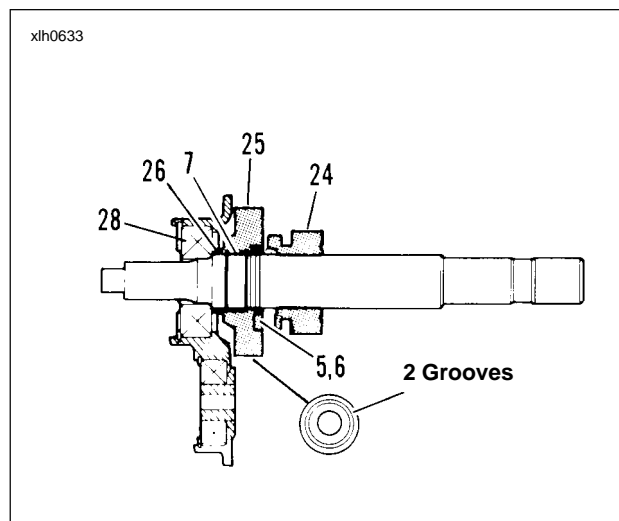

Figure 6-43.
2. See Figure 6-43. Place spacer (26) over mainshaft and position next to bearing (28). Position split bearing (7) into machined seat next to spacer (26). Locate mainshaft 4th gear (25), which can be identified by the two radial grooves at one side. Slide gear (25) onto shaft with radial grooves facing door. Position gear over bearing next to spacer (26).
3. Install thrust washer (6) and retaining ring (5) next to gear (25). It will be necessary to push the retaining ring into final position with a screwdriver.
4. Slide mainshaft 1st gear (24) onto mainshaft with the locking dogs facing gear (25). The shifter fork groove must face the access door.